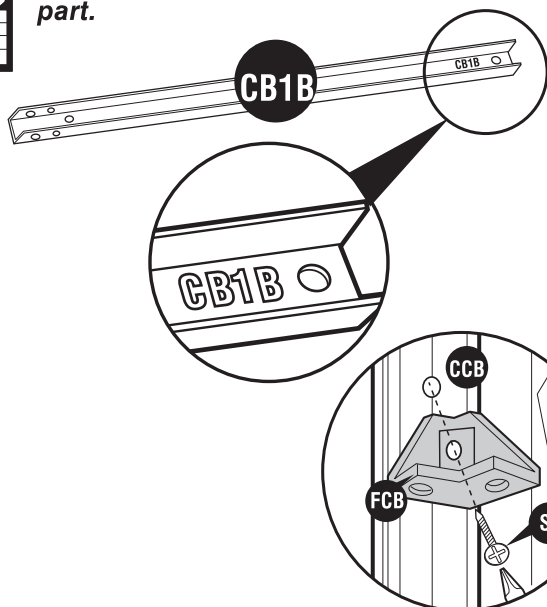

Fig.1: Use (**S2**) screw. Fix (**FCB**) to (**CCB**). Leave it loose.
5. To stabilize the front panel attach the **front center band right (CB1B)**. Start with the **center band fitting**. Fix to corner column (**CCB**) with (**S2**) screws. To continue See figures (**fig.1**) (**fig.2**) and (**fig.3**).